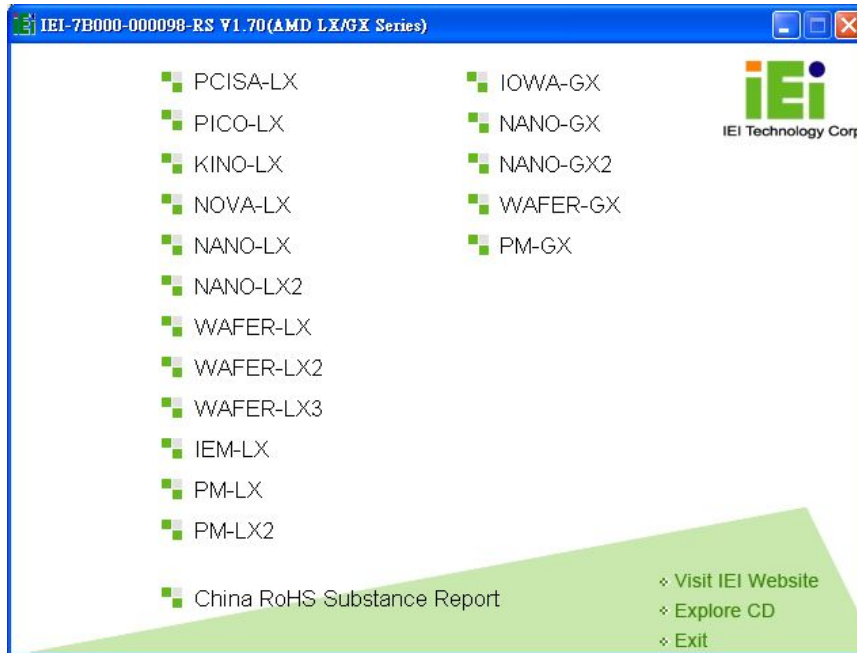

Figure 7-1: AMD® LX/GX CD Main Menu
Step 1: From the AMD® LX/GX Driver CD main menu (**Figure 7-1**), click **NANO-LX**.